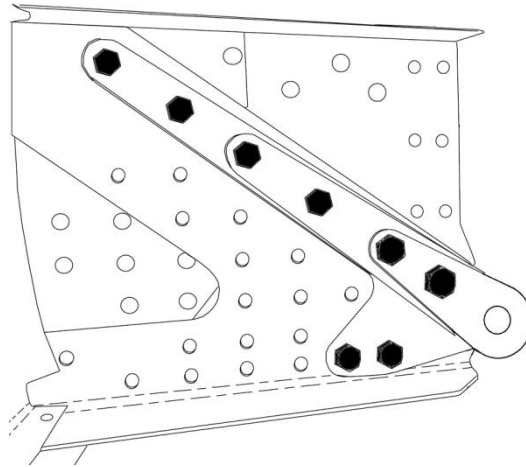

Figure 7 – Front Spar bolts, RHS shown
3. Remove the nuts, bolts and washers attaching lugs to the Front Spar Assembly as shown in Figure 7. Retain all fasteners if serviceable.